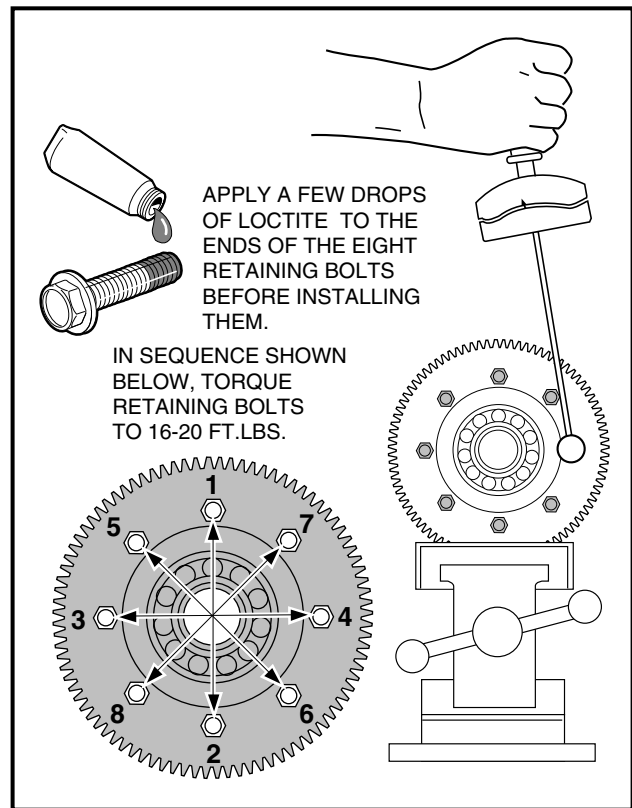

FIGURE 10-67
7. Apply Loctite® 277 on the threads of the eight mounting bolts and install them through the ring gear, carrier case, and into the carrier case cover. Then tighten the bolts to 16-20 ft.lbs. (21.7/27.1 N-m) in the sequence shown (**Figure 10-67**).